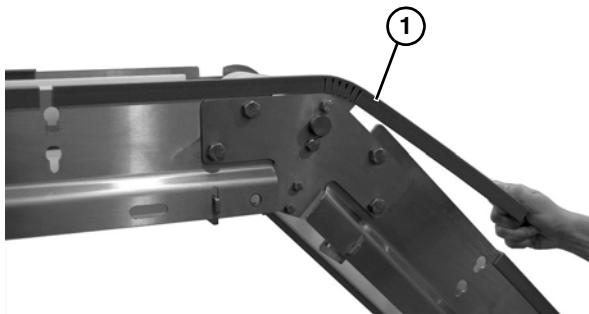

Figure 7
2. Attach bar cap (**Figure 7, item 1**) to frame and knuckle.